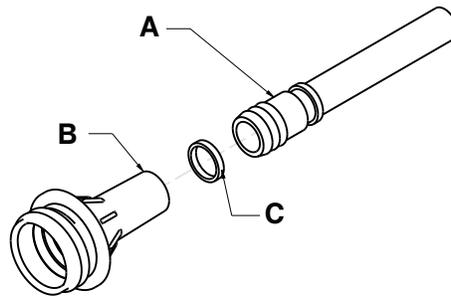

Figure 6 – Reduction coupler fitting
5. Using the diagonal pliers, carefully cut the cable tie (C) closest to the foot end of the support surface cover that secures the LAL hose and reduction coupler fitting (A) to the valve body (B) (Figure 6).
5. Using the diagonal pliers, carefully cut the cable tie (C) closest to the foot end of the support surface cover that secures the LAL hose and reduction coupler fitting (A) to the valve body (C) (Figure 6).